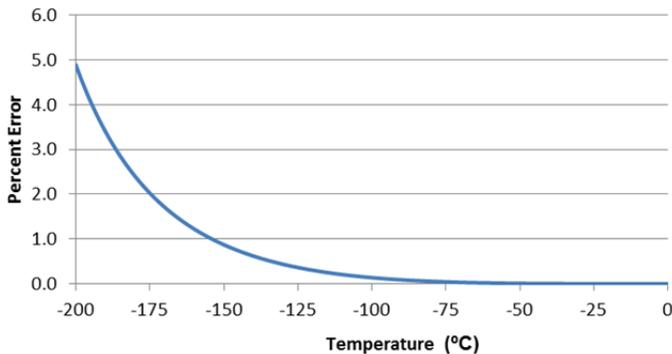

FIGURE 1: Callendar-Van Dusen Equation Comparison; Error Caused by Using Equation (2) for Temperatures Below Zero
Equation (1) is typically used for temperatures below  $0^{\circ}\text{C}$ , whereas equation (2) is used for temperatures above  $0^{\circ}\text{C}$ . When equation (2) is used for temperatures below  $0^{\circ}\text{C}$  there is some error associated with the calculated resistance. As seen in Figure 1, the error due to the use of Equation (2) grows exponentially. Below  $-100^{\circ}\text{C}$  the error is too significant to justify using equation (2) in place of equation (1).